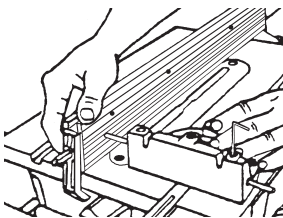

Figure 71
- b. Use a Medium Screwdriver to adjust the Glides in or out, as illustrated in Figure 71, so that the Glides hold the Miter Gauge 1/64" to 1/32" off the Worktable and the Miter Gauge does not rock in the Slots.
- Adjust the Fence by pulling or pushing it closer to, or farther from, the 5/32" Allen Wrench, as shown in Figure 71.